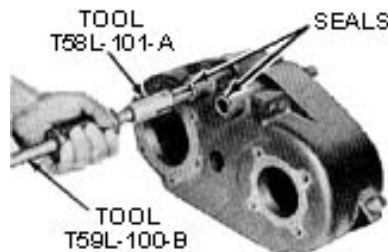

Figure 16 – Removing Shift Rail Seals
1. Remove the shift rail seals as shown in Fig. 16.